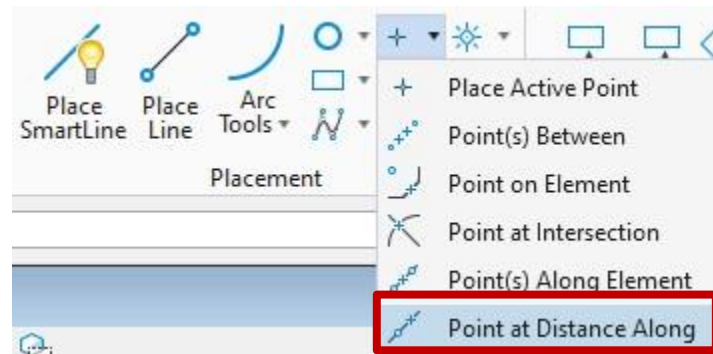

Figure 42 – Point at Distance Along Tool
3. Measure d_{SSD} along the right turn geometric speed path using the 'Point at Distance Along' tool shown in **Figure 42**.